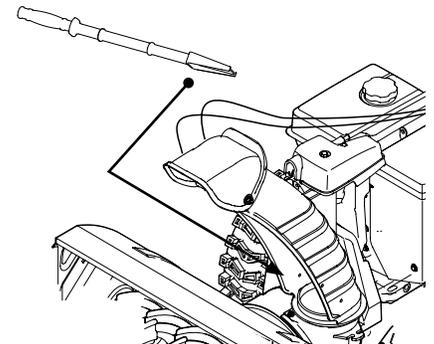

Figure 3-16
- Use the shovel-shaped end of the clean-out tool to dislodge and scoop any snow and ice which has formed in and near the chute assembly. Always use the clean-out tool (Part # 931-2643), not your hands. Refer to the separate supplement for clean-out tool ordering information. See Figure 3-16.